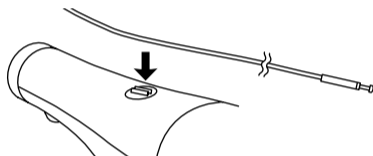

Fig. 2
- ② Mount Contra Angle Head to motor handpiece. Pull out the head straightly when removing/replacing the head.
- ③ Insert the Connection Cord into the slit of Connection Cord Clip. Adjust the tension of the Connection Cord between the head and the Connection Cord Clip not to be slack. (Fig.2)